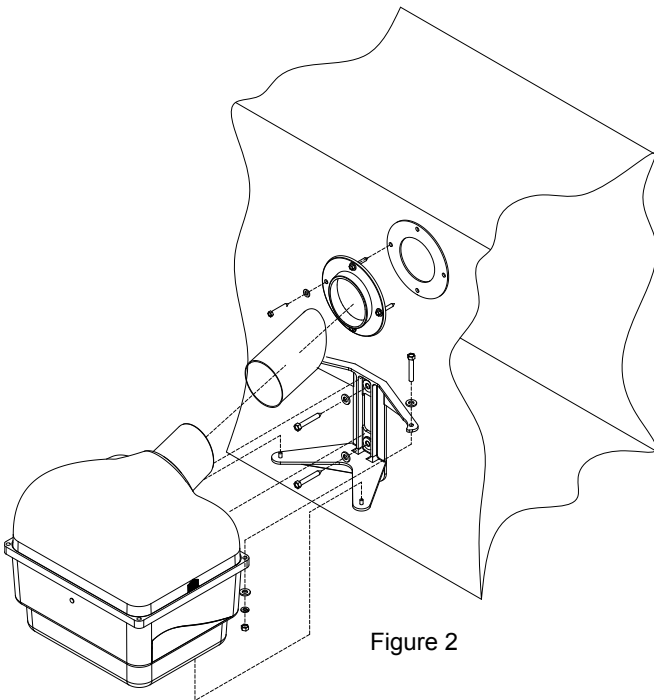

Figure 2
1. Referring to figure 2, using the mounting template, mark the mounting holes on the duct. Ensure that the discharge tube is lined up with the centerline of the duct.